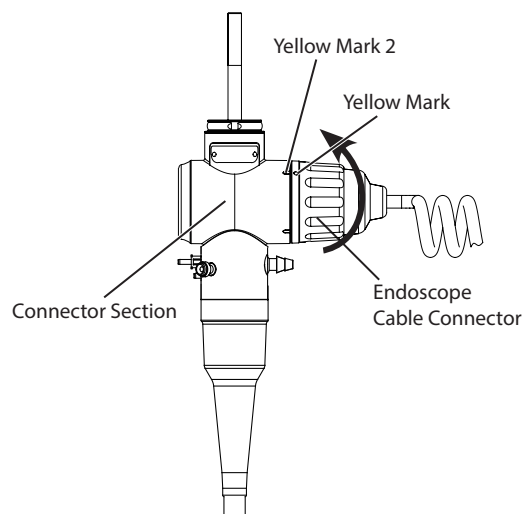

Figure 3-16 Connecting the Endoscope Cable 2
2. As shown Figure 3-16, rotate the endoscope cable connector clockwise, and align the yellow mark on the connector with the yellow mark 2 on the electrical connector of the endoscope until a click is heard.